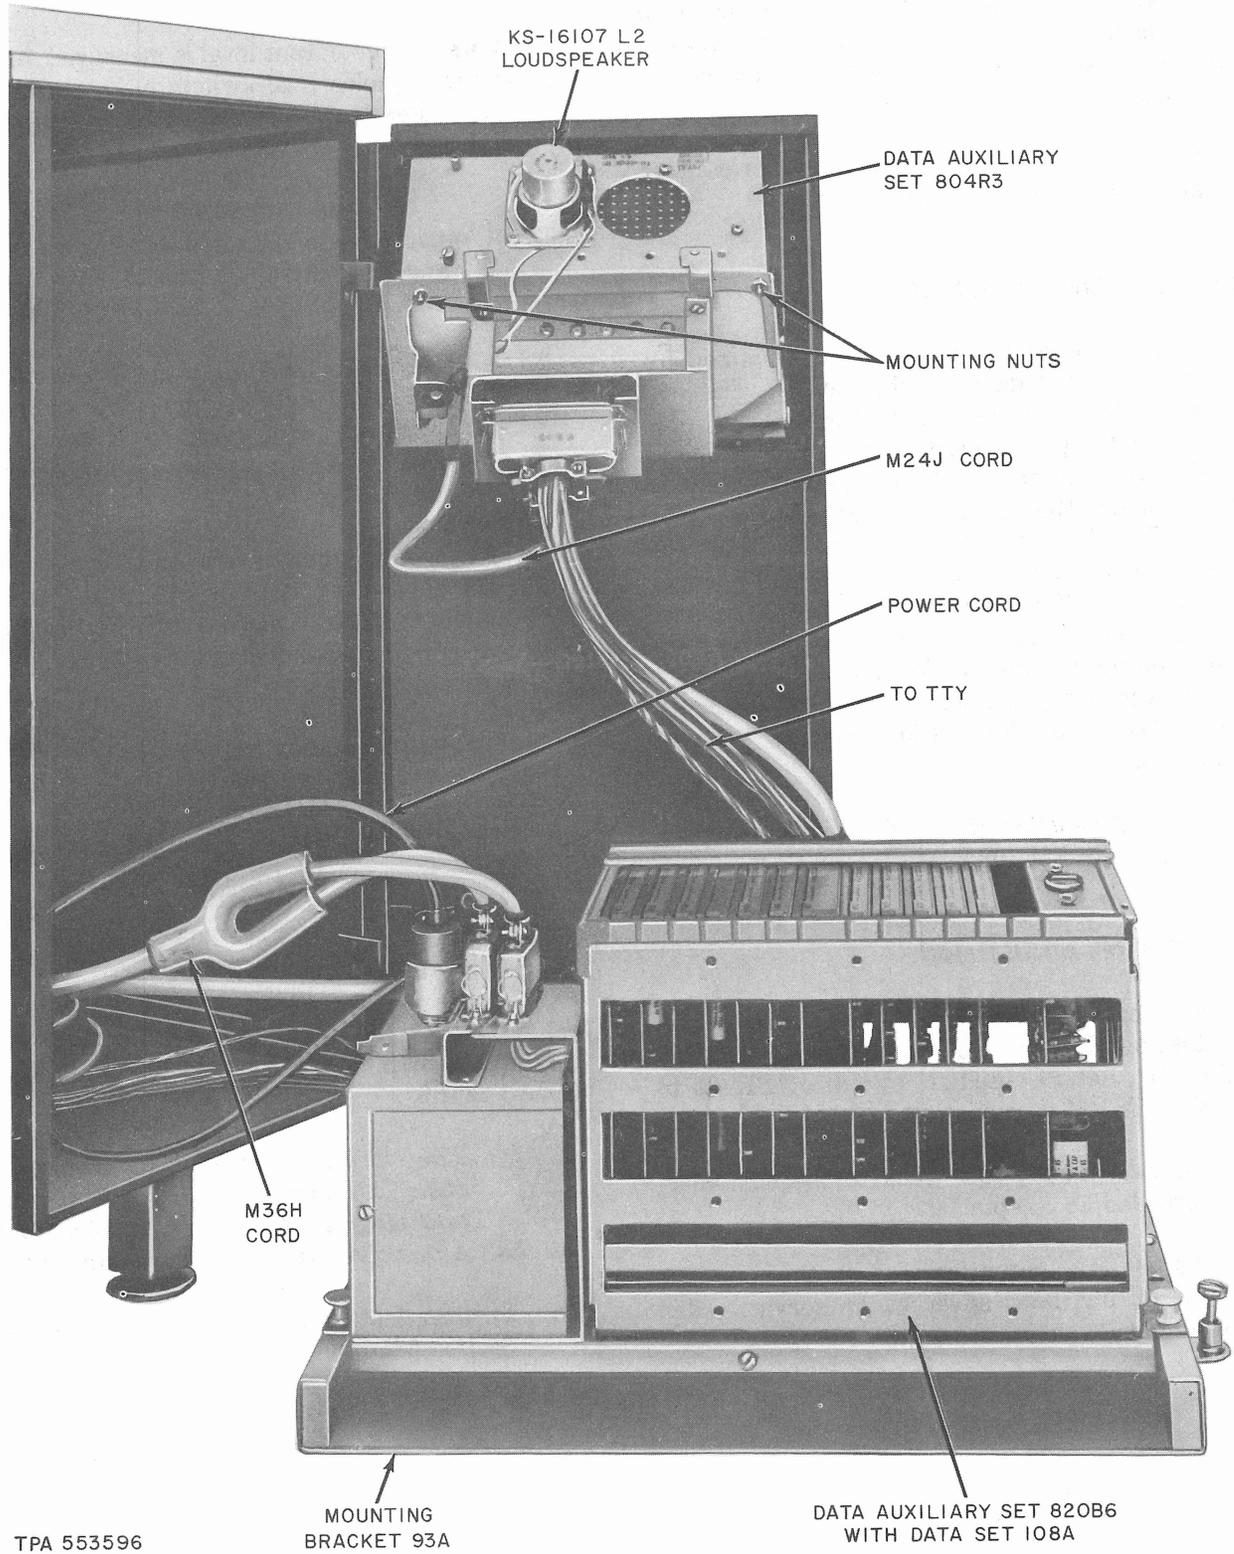

Fig. 1—37 RO TTY With DAS 820B6 in the Maintenance Position
- (3) Carefully place controller and 93A bracket on floor in front of TTY (Fig. 1).